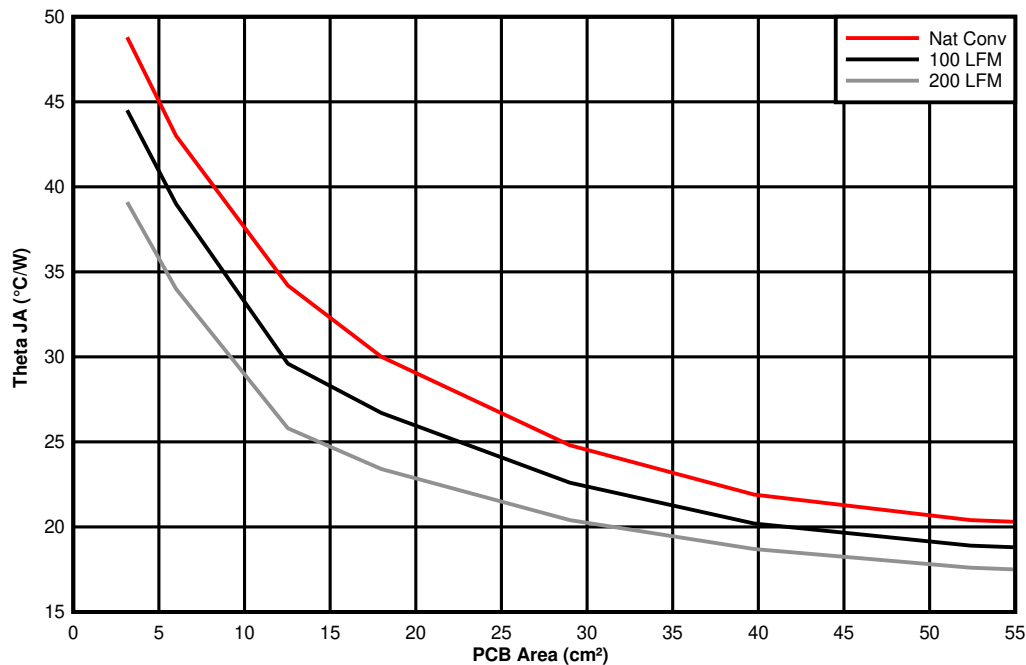

图 11-5.  $\theta_{JA}$  vs PCB Area
The amount of PCB copper as well as airflow effects the thermal performance of the device. 图 11-5 shows the effects of copper area and airflow on the junction-to-ambient thermal resistance ( $R_{\theta JA}$ ) of the TPSM5601R5Hx. The junction-to-ambient thermal resistance versus PCB area is plotted for a 4-layer PCB.
3. Reference 图 11-5 to determine the minimum required PCB area for the application conditions.